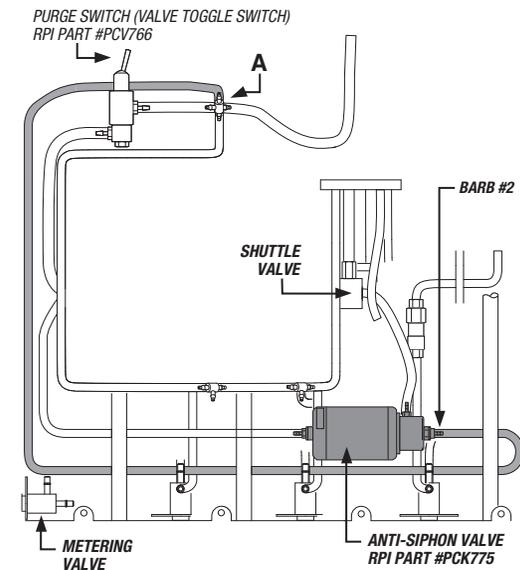

Figure 4
- 6) From the Metering Valve, disconnect the 1/8" green spray air tubing "B" and connect it to **BARB #1** on the Anti-Siphon Valve (see Figure 4).